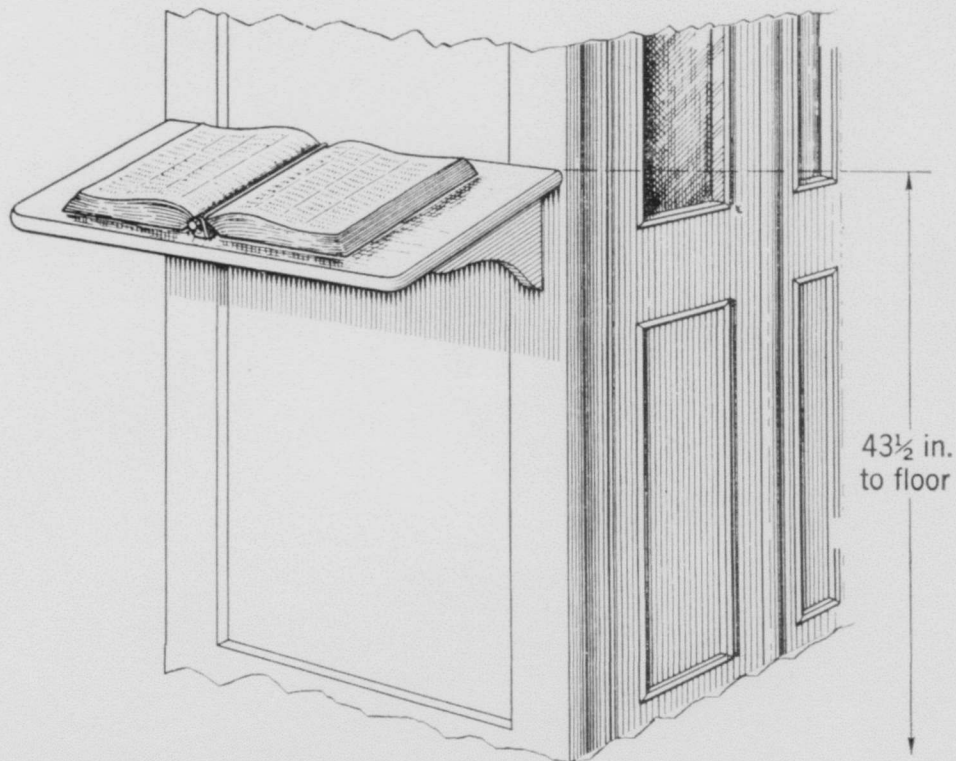

Fig. 6—Wood Shelf on Folding Door Booth
3.05 When installing 11- and 17-type shelves, a No. 10 FH bright wood screw should be placed in the middle of the mounting surface at a point $42\frac{1}{8}$ inches above the floor. Leave sufficient room between the screwhead and the mounting surface to hang the shelf by means of the bracket. For the 12- and 13-type shelves, two screws are required and are placed $6\frac{3}{4}$ inches apart and $43\frac{1}{8}$ inches above the floor. Use $1\frac{3}{4}$ -inch No. 10 FH bright wood screws for mounting the 11- or 17-type shelves on booths. For mounting the 12- and 13-type shelves on different wall surfaces, use the fasteners shown in the following table. Upper edge of shelf should be $42\frac{1}{2}$ inches from the floor. Fig. 6 shows typical installation of shelf on a booth.